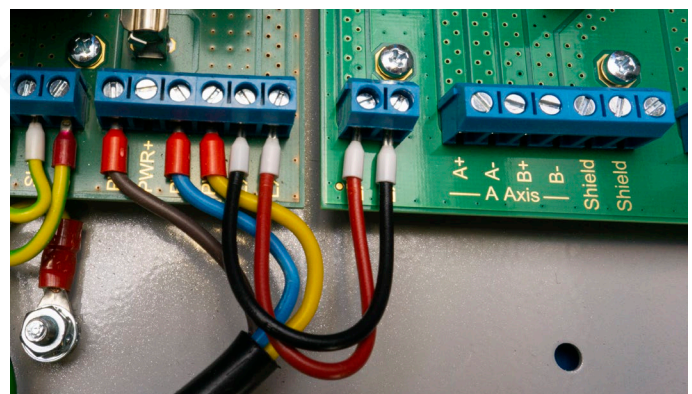

Fig. 37: Cable bridges on EXT +/- for power supply
- Connect the EXT +/- terminals of the MC Drive-Module and MC Drive-Module Extension with the enclosed cable bridges (Fig. 37).